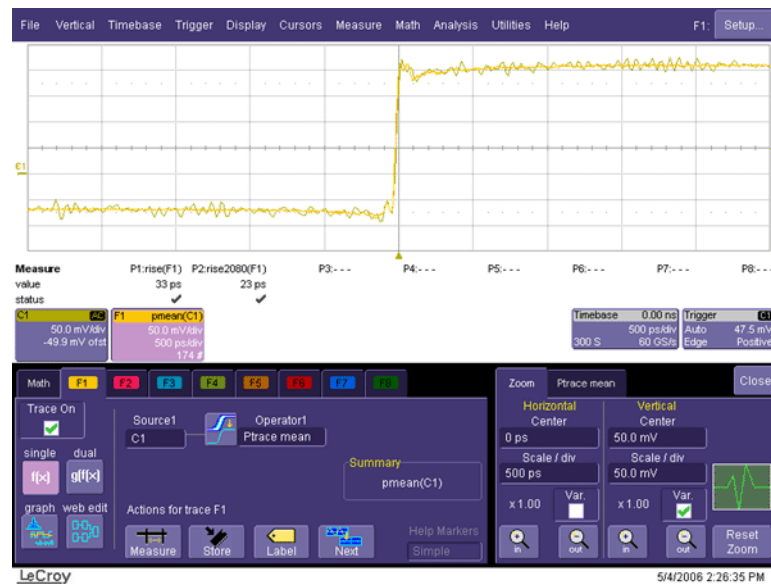

Figure 7-4. Rise Time Measurement
- I. Record the measured 20-80% rise time as “Source rise time” ( $t_{source}$ ) in the Test Record (Figure 7-4).